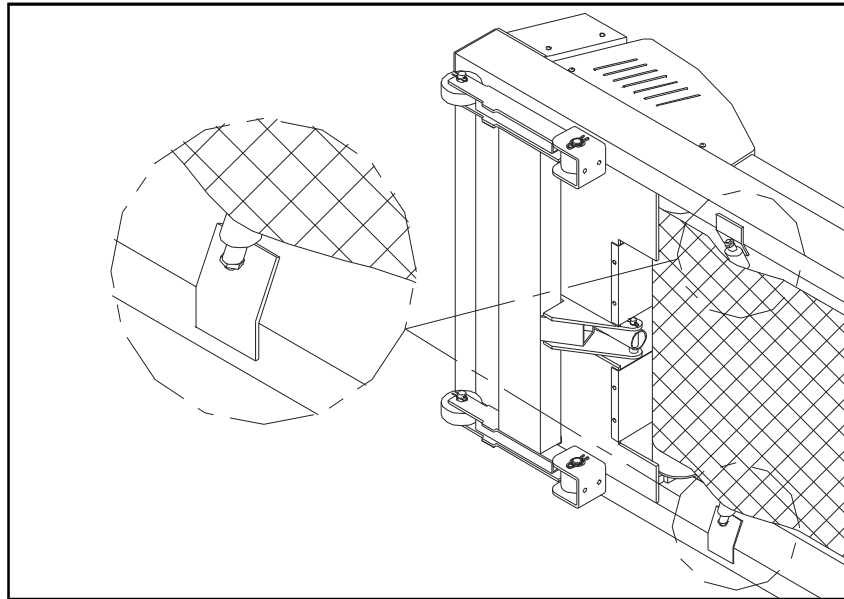

Fig.1
2. Lay the treadmill on its side. Make sure the running belt is position in the tracks of the two BELT ALIGNMENT ROLLER underside of the machine (see Fig. 1 ).